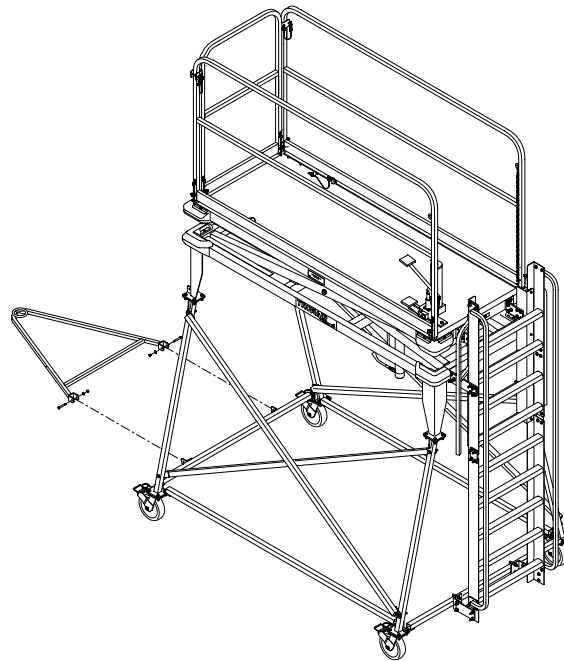

FIGURE 5
8. Install the towbar using $\frac{3}{8}$ inch diameter shoulder bolts (See *Figure 5*).